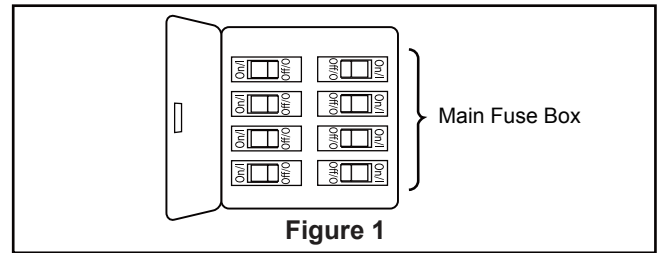
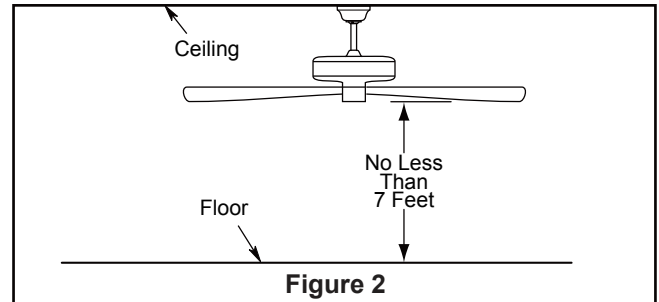
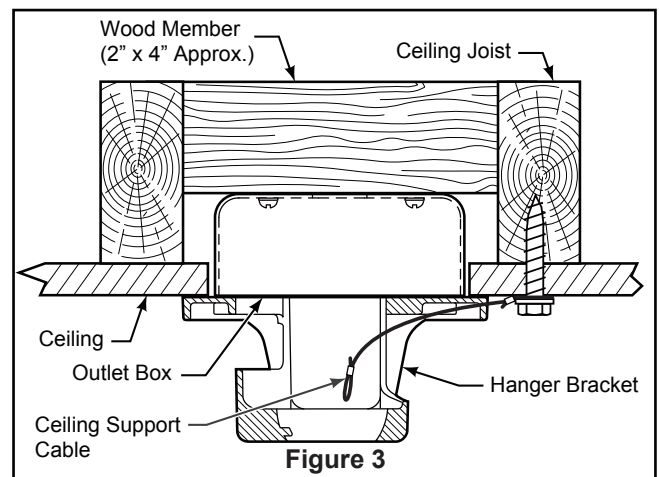

Figure 1
Figure 2
Figure 3
Your new ceiling fan will require a grounded electrical supply line of 120 volts AC, 60 HZ, 15 Amp Circuit. Electrical code requires use of a fan-rated outlet box to support the extra weight and motion associated with a ceiling fan. A fan-rated box will be labeled as such and typically supports up to a 70lb ceiling fan. Fan-Rated Outlet Boxes vary in ratings and design. Ensure the ratings of your ceiling fan outlet box meet the requirements for the ceiling fan being installed. Figure 1, Figure 2 and Figure 3 depicts different structural configurations that may be used for mounting the outlet box.
Low profile box (Figure 1)
Deep box (Figure 2)
Deep box with brace (Figure 3)
1. Remove the hanger ball portion from the downrod/hanger ball assembly by loosening the set screw in the hanger ball until the ball falls freely down the downrod. Remove the pin from the downrod, then remove the hanger ball. Retain the pin and hanger ball for reinstallation in Step 6. (Figure 1)
2. Remove the hairpin clip and clevis pin from the bottom of the downrod. Retain the pin and clip for reinstallation in Step 4. (Figure 2)
3. Loosen the two set screws and locking nuts in the downrod support of the motor assembly. Route the brown, blue, red, gray, yellow wires and safety cable through the downrod. (Figure 3)
To avoid possible fire or shock, be sure electricity is turned off at the main fuse box before hanging. (Figure 1)
The fan must be hung with at least 7' of clearance from floor to blades. (Figure 2)
1. Securely attach the hanger bracket to the outlet box using the outlet box screws and washers supplied with the outlet box. (Figure 3)
2. Drill a 1/4" pilot hole into the building structure to prevent splitting or cracking with installation of the lag bolt. Using the 3/8" x 2" lag bolt and flat washer, attach safety cable to ceiling joist or wood structural member. The lag bolt will pass through the flat washer, safety cable loop, and into the building structure. (Figure 3) **NOTE:** Ceiling support cable cannot be secured to outlet box only, it must be directly secured to ceiling joist or structural member using the 3/8" x 2" lag bolt and flat washer. (Figure 3)
- 1. To set the code on receiver unit, slide dip switches to the same positions as set on the remote control. (Figure 1)
To avoid possible electrical shock, be sure electricity is turned off at the main fuse box before wiring. (Figure 2)
- 2. Slide the receiver into the hanger bracket before wiring as shown in figure 3.
2. Securely attach and tighten the canopy screw cover over the shoulder screws in the hanger bracket utilizing the key slot twist-lock feature. (Figure 2)
2. Remove one of the three screws in the support bracket at the bottom of the motor assembly and retain the screw for later and slightly loosen the remaining two screws. (Figure 2)
3. Assemble the light plate assembly to the support bracket using the two key slots in the light plate assembly. Replace the previously removed screw and securely tighten all three screws. (Figure 3)
2. Restore electrical power to the outlet box by turning the electricity on at the main fuse box. (Figure 2)
3. Remove the battery cover from remote control by screwdriver and retain the screw for later. (Figure 3)